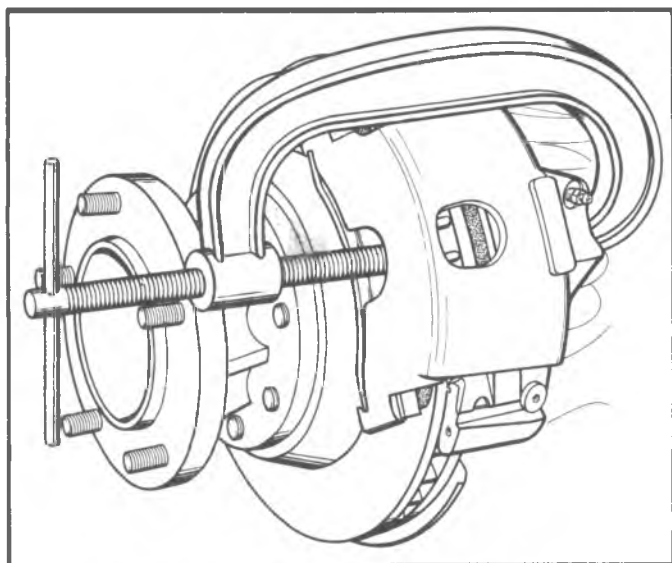

Fig. 100--Pushing Piston into Bore Using a "C" Clamp
3. Push the piston back into its bore. This can be accomplished by using a "C" clamp as shown in Figure 100.